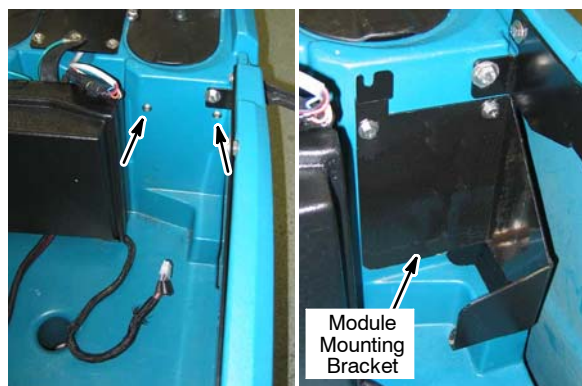

Fig. 13
- Using two m6x1.00x16 sems screws [p/n 1034731], attach the *ec-H2O* module mounting bracket [p/n 1040881] to machine as shown (Figure 13).